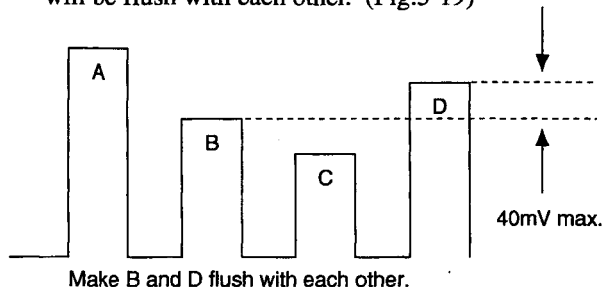

Fig. 5-19
- 2) Connect the probe of an oscilloscope to IC404 ③⑩PIN or TP402.
- 4) Adjust **CHROMA PAL NOR** so that the peaks of waveforms will be flush with each other. (Fig.5-19)